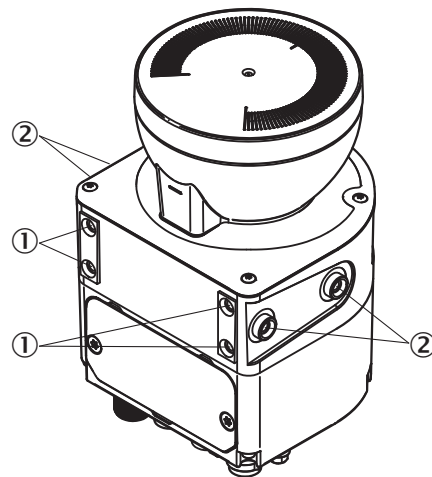

Figure 48: Mounting the safety laser scanner directly
- ① Rear M5 threaded hole
- ② Side M5 threaded hole
- ▶ Use either the rear or the side M5 threaded holes for direct mounting, see figure 48, page 68.